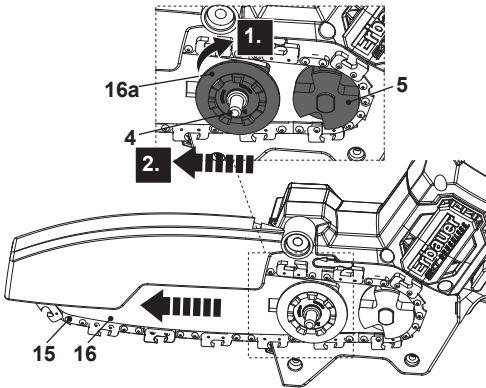

Fig. 5
6. Rotate the turning wheel (16a) clockwise to adjust the guide bar (16) towards the left to tighten the saw chain (15), then align and place the garden saw cover (14) over the mounting bolt (4) (Fig. 5, steps 1, 2).